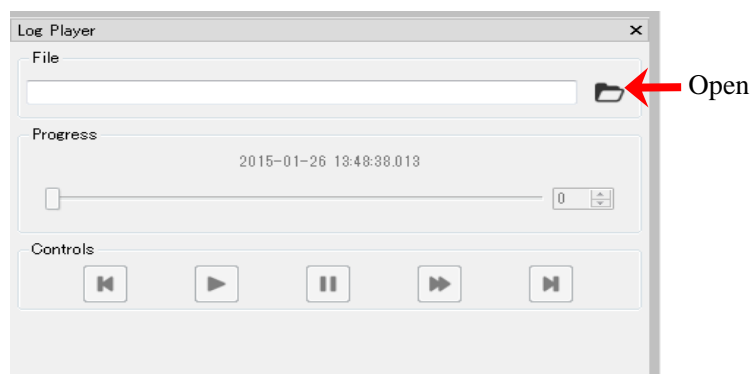

Figure 3-20 Log player windows
- ② Log player is displayed as shown in figure 3-20.
- ③ Use control buttons as required as shown in figure 3-20.